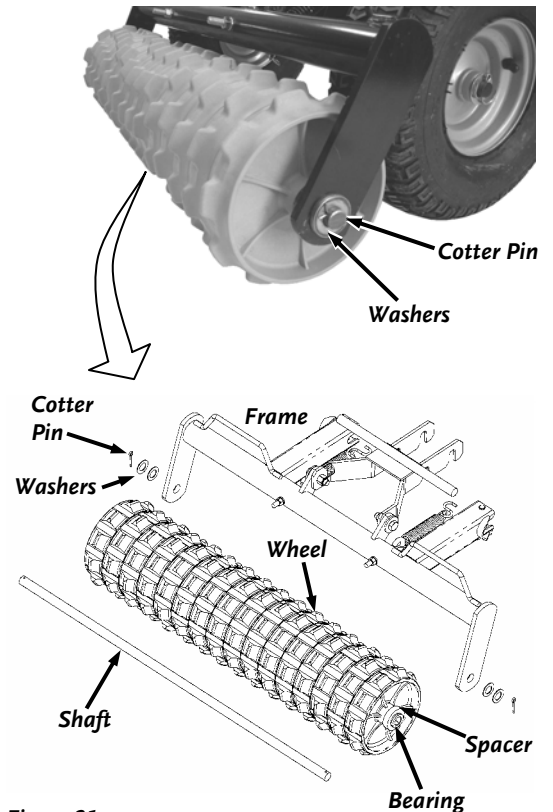

Figure 31
1. Remove the Cotter Pins and Washers from the ends of the Shaft (**Figure 31**).